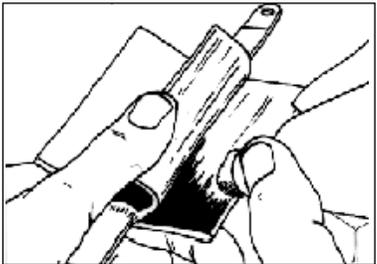

Figure 16
4. Repeat steps 2 and 3 for the other clip wings. Remove protection paper only after lubricating at least one wing side. (Figure 16)